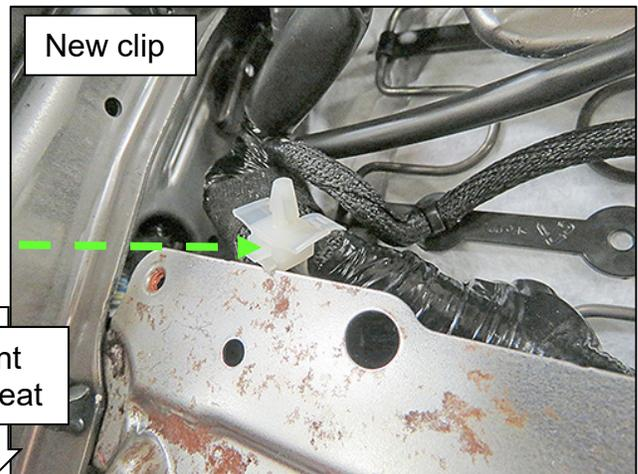

Figure 26
34. Install the new clip onto the harness in the position shown in Figure 26.
NOTE: On most vehicles this will change the orientation of the new clip 180° relative to the position of the old clip. See Figure 26.